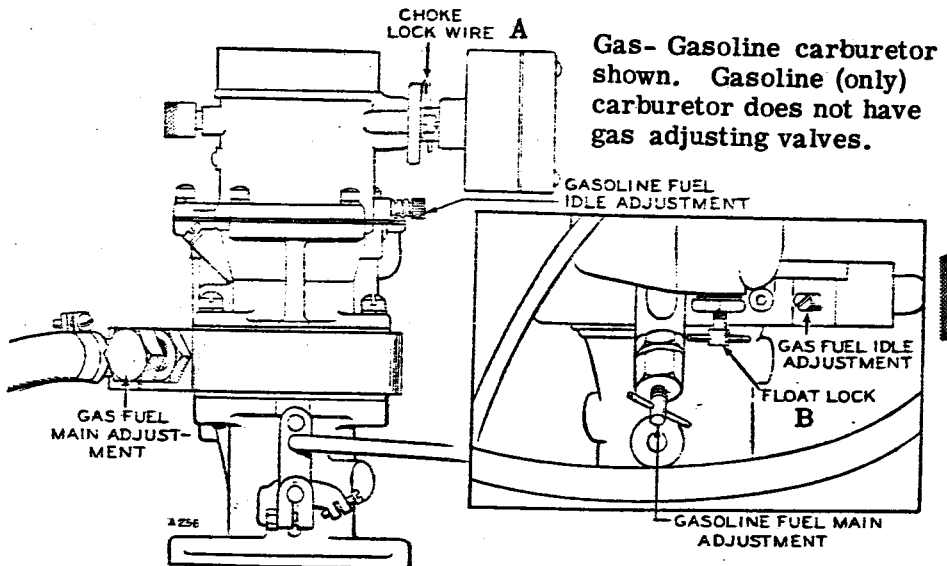

Fig. 17 Carburetor Adjustments
**GAS FUEL OPERATION.** - A special carburetor is used on plants equipped for gas fuel operation. See that the float lock screw (B, Fig. 17) is turned up tightly to prevent the float from vibrating inside the carburetor. If an emergency source of gasoline fuel is also connected, see that the gasoline shut off valve is closed. See that the choke lock wire (A, Fig. 17) is properly inserted through the choke shaft hole, to hold the choke in its wide open position.
3. Back off the float lock screw (B, Fig. 17) until it seats firmly in the down position. Turn the gasoline shut off valve to its open position.
**CARBURETOR, GASOLINE.** - The carburetor has main and idle adjusting needle valves (Fig. 17). The main adjusting needle, at the bottom of the carburetor, affects the operation at the heavier load conditions. The idle adjusting needle, at the side of the carburetor, affects the operation at light or no load conditions.